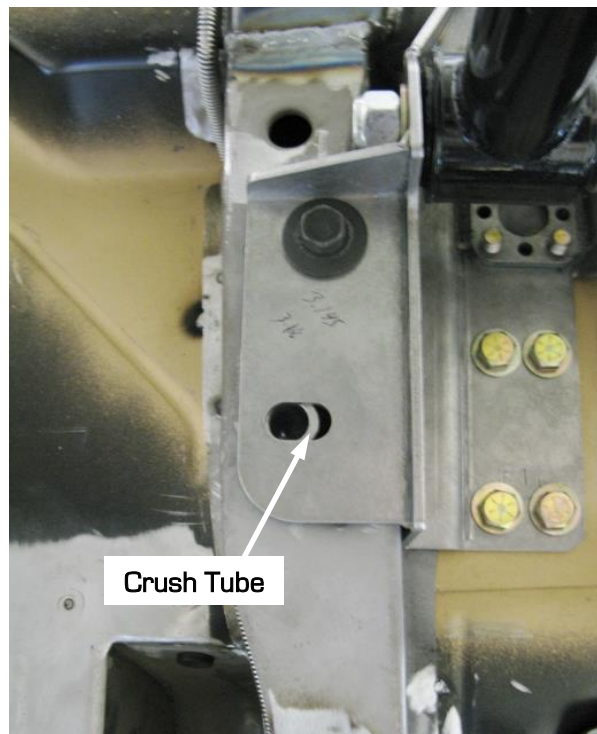

Figure 13 – Frame Rail Crush Tube
23. Position the frame rail crush tube in the frame rail and install the DSE pocket assembly into the vehicle. The DSE pockets will hold the crush tube in place so that it won't fall out. Install the 7/16"-14 x 4-1/4" L bolt through the bottom of the frame rail into the floor pan doubler (Figure 13). **NOTE:** If the bolt will not thread into the doubler plate, you may need to open up the bottom frame rail hole until the bolt will thread into the plate.